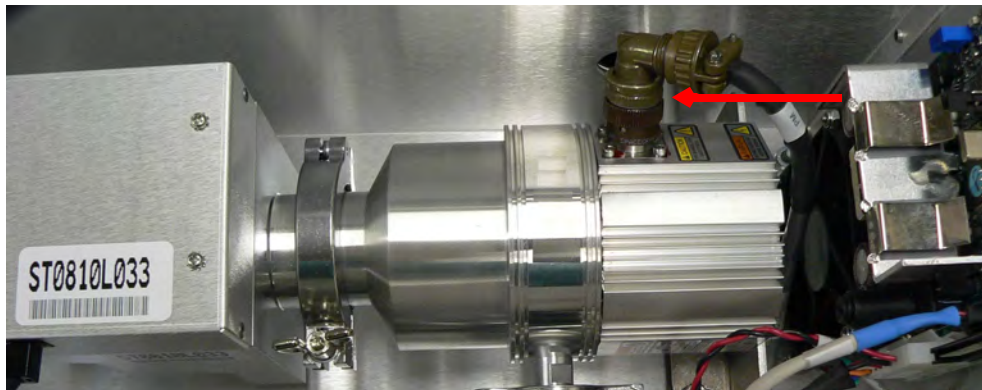

Figure B-5 NW25 Clamp To Spectrometer
6. Unscrew the connector to the pump and pull the cable away (Figure B-5).
14. Reattach the pump connector (Figure B-5).